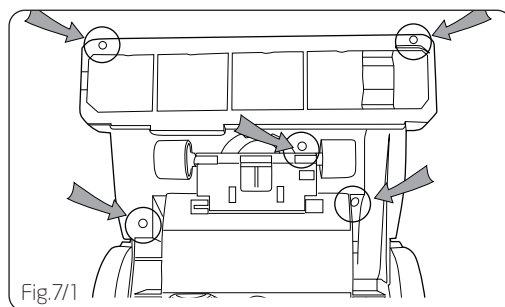

Fig.7/1
Using a Phillips screwdriver, remove the five (5) screws on the underside of the cleaner (Fig.7/1).
Pull down the smaller wheel flap on the underside and remove the remaining screw inside the black tube (Fig.7/2).